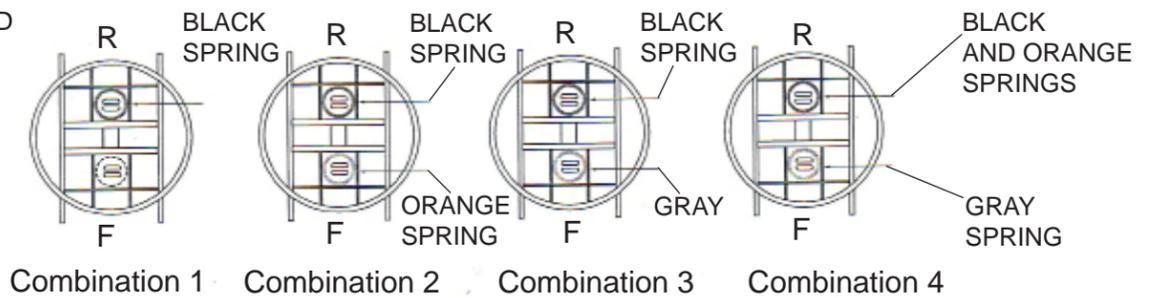

Figure 2
- When the pallet weight or pallet height is changed, the springs may also need to be changed, to adjust the Pallet Leveler to the correct pallet load. Tables 1A and 1B show how the springs are selected. Each spring is color coded to identify the proper selection. Every Pallet Leveler will always have one spring. This spring has the largest diameter of the three and is black in color. The black spring is always positioned near the rear of the unit, which is closest to the hinge. Figure 2 shows the position of the black spring and any additional springs which may be required.
- The black spring will hold the unit up. Re-assemble the shock absorber by inserting the pivot pin and linch pin. Re-install the rotating ring on the top frame; make sure the ring can rotate. Table 1A & 1B may indicate that one or two additional springs must be installed. To add additional springs, remove the spring caps and insert the springs through the top of the unit. See figure 2 for proper spring placement. To remove a spring cap, turn the cap counterclockwise and lift upward. Insert the spring through the opening. Replace the spring cap and turn clockwise to lock it in place.